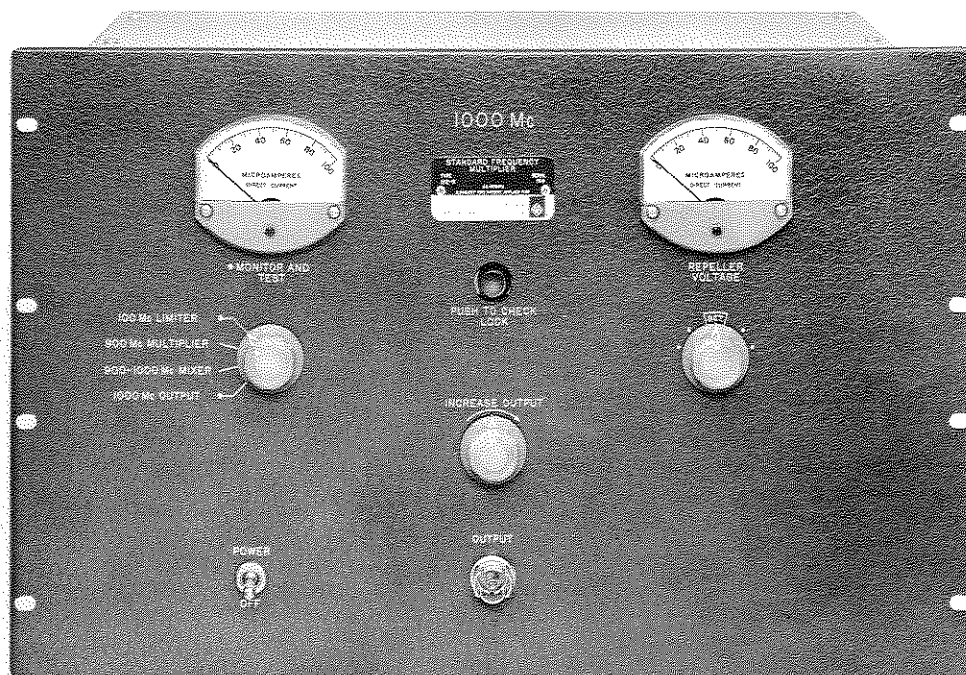

Figure 1. Type 1112-B Standard Frequency Multiplier.
1.1 PURPOSE. The Type 1112-B Standard Frequency Multiplier (Figure 1) provides a 1000-Mc signal when supplied with a suitable 100-Mc input. Such an input is most conveniently derived from a companion instrument, the Type 1112-A Standard Frequency Multiplier, which in turn can be driven by a frequency standard oscillator such as the General Radio Type 1113-A or 1115-B.